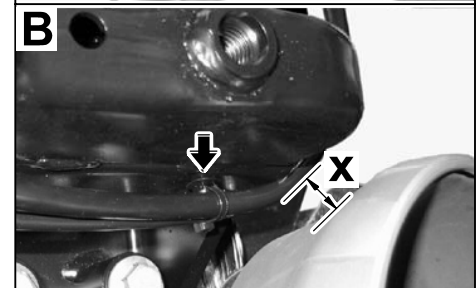

Figure 14
3.1 Remove rubber sleeve from side panel and guide all electric wire harness connectors through the bore ⇒ *Figure 14 -A, arrow-* and into the passenger compartment. Insert pre-fitted rubber sleeve into the bore on the body.
3.2 Guide the wire harness into the vehicle as far as necessary to ensure a sufficient distance from the trailer hitch (clip on underside ⇒ *Figure 14 -B, arrow-*) and from the exhaust system ⇒ *Figure 14 -B, X-*.